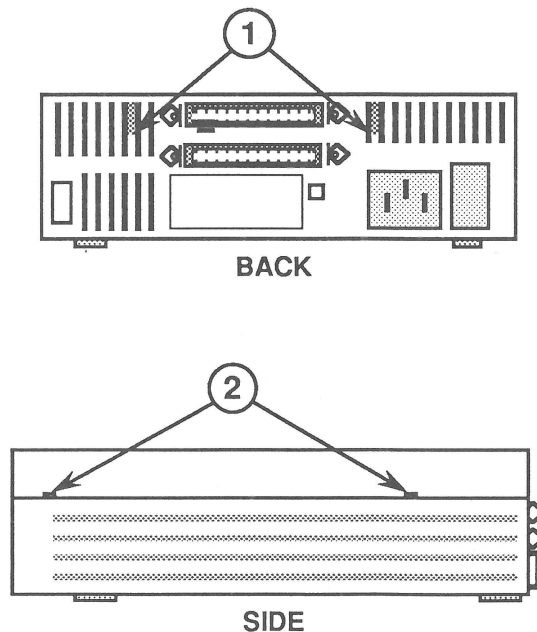

FIGURE 1
1. Locate the two holding tabs (Figure 1, #1) on the rear of the hard disk, within the ventilation slots on either side of the top SCSI connector.
3. Locate the four tab holes, two on each side of the hard disk (see Figure 1, #2). Starting with the rear holes, free the tabs by gently inserting the screwdriver **straight** into each of the holes, nudging the case top up as you release each tab. **Prying is not necessary and may damage the case.**